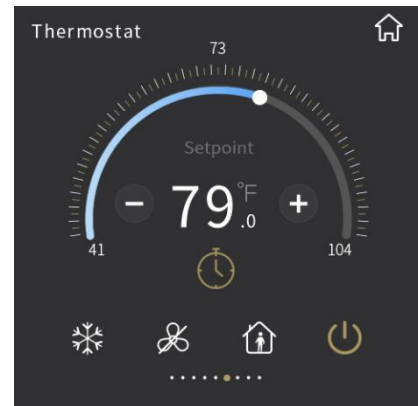

Fig.2.3.3
⑤ **The function of this icon is to decrease the temperature;**
⑥ **The function of this icon is to increase the temperature;**
Adjusting the temperature by sliding the ring slider④ or touching the icon⑤ and icon⑥. For each touching of icon⑤ and icon⑥, the adjustment range is 0.5 degrees. When the setting temperature unit is set to degrees Celsius(°C), as shown in 2.3.1, adjustment range of the setting temperature is 5~40°C by default; when the setting temperature unit is set to Fahrenheit(°F), the current temperature value will automatically convert to Fahrenheit value, as shown in Fig.2.3.3, adjustment range of the setting temperature is 41~104°F by default. The temperature adjustment range can be modified through parameter setting.